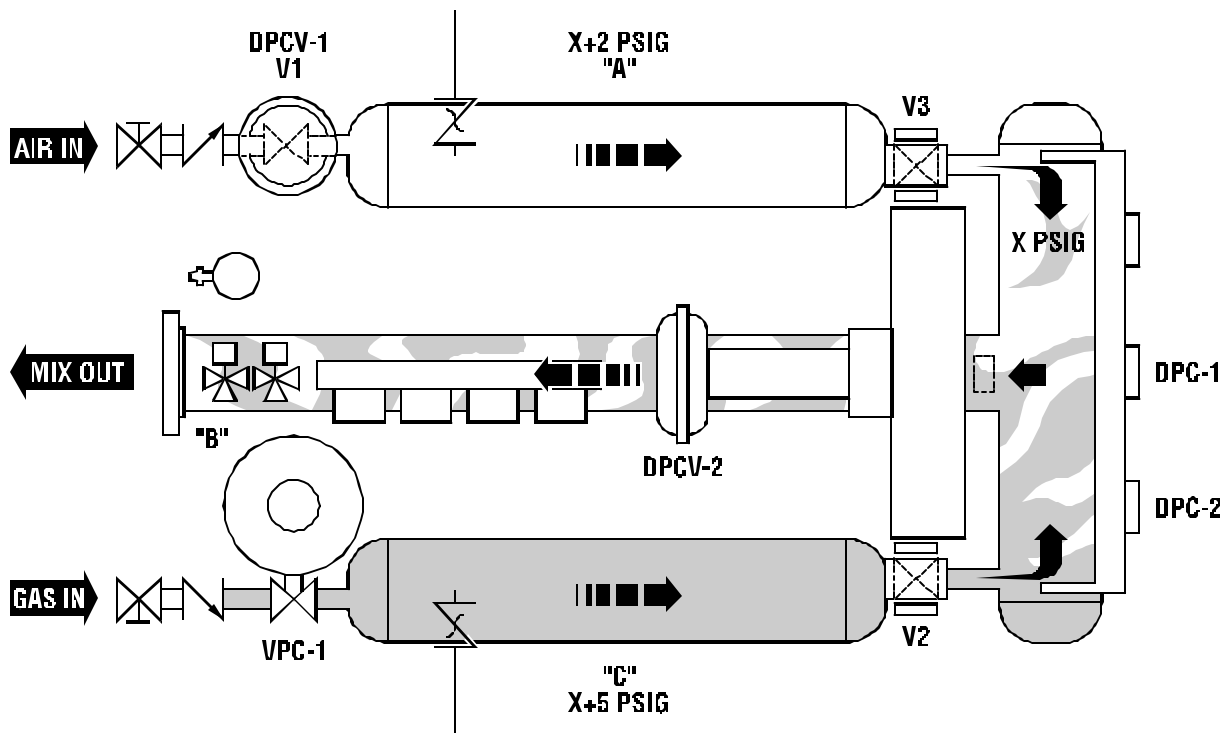

Figure 3-1 - General Schematic for MPM Series Mixers
**3.02** Figure 3-1 illustrates the general schematic for MPM Series Mixers. The Schematic is functionally equivalent for all sizes.
Referring to Figure 3-1 (page 9), we have propane at the propane vapor pressure control regulator (VPC-1) at 100 psig minimum from a vaporizer. VPC-1 reduces the pressure to (X+5) psig in chamber "C" and DPCV-2 (differential pressure control valve) is set to maintain a 5 psi difference. Therefore, the pressure in chamber "B" is the desired X psig. If the set point on DPC-2 (controller) is changed, it will alter the downstream pressure. For example, if you change the set point of DPC-2 to 3 psi differential, since the upstream of valve V-2 is set at (X+5) psig, the downstream pressure will be (X+2) psig. Therefore, once the desired differential is set, any pressure change should be made by altering the pressure setting of VPC-1 regulator.